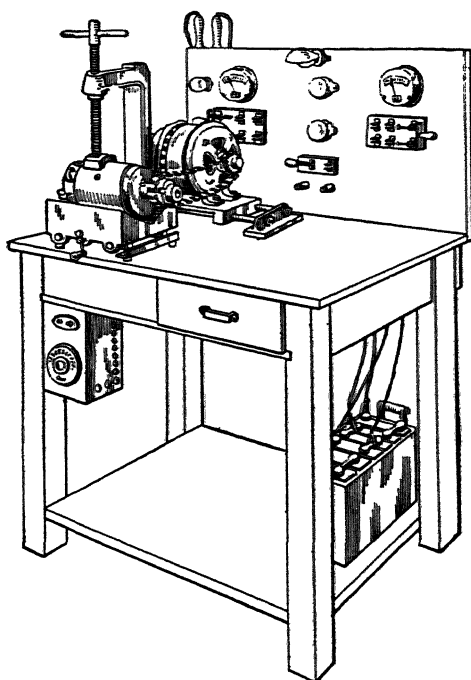

Fig. 17. Electrical Test Bench
**Generator Test Bench.** Fig. 17 shows a test bench that can be made for testing generators. The bench consists of a generator stand; a direct-current or an alternating-current motor, according to the power available; a 6- and 12-volt cut-out; switches of the 10-ampere double and single pole, single- and double-throw type;